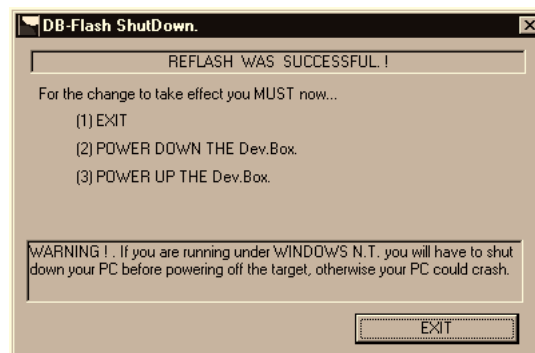

Figure 5.3 The DB-Flash "Success" dialog.
- 12) It takes about 25 seconds to reflash your system's Firmware. Then DBFlash displays a `Success` dialog like the one shown in Figure 5.3.